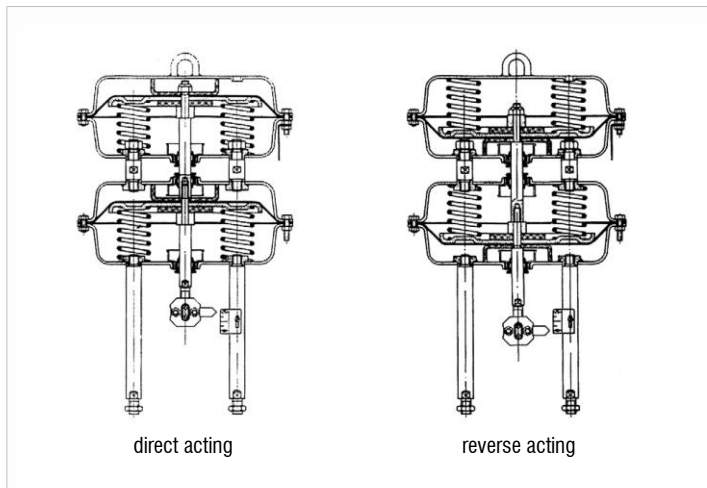

Fig. 11: actuator assembling Series 2000T, tandem
5. Reassemble all internal parts acc. Figure 11 (direct or reverse acting) following 1 to 4 in reverse order.